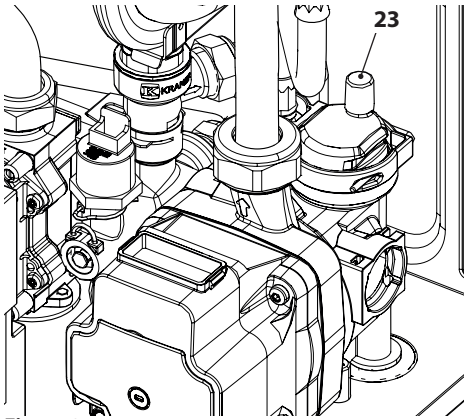

Figure 9.11
- To make draining easier, unscrew the automatic bleed valve cap 23 in Figure 9.11.